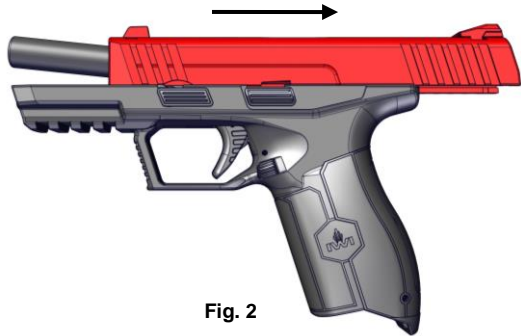

Fig. 2
3. Pull the slide to the rear (Fig. 2) and check the chamber visually and physically to ensure that the pistol is unloaded. Release the slide.